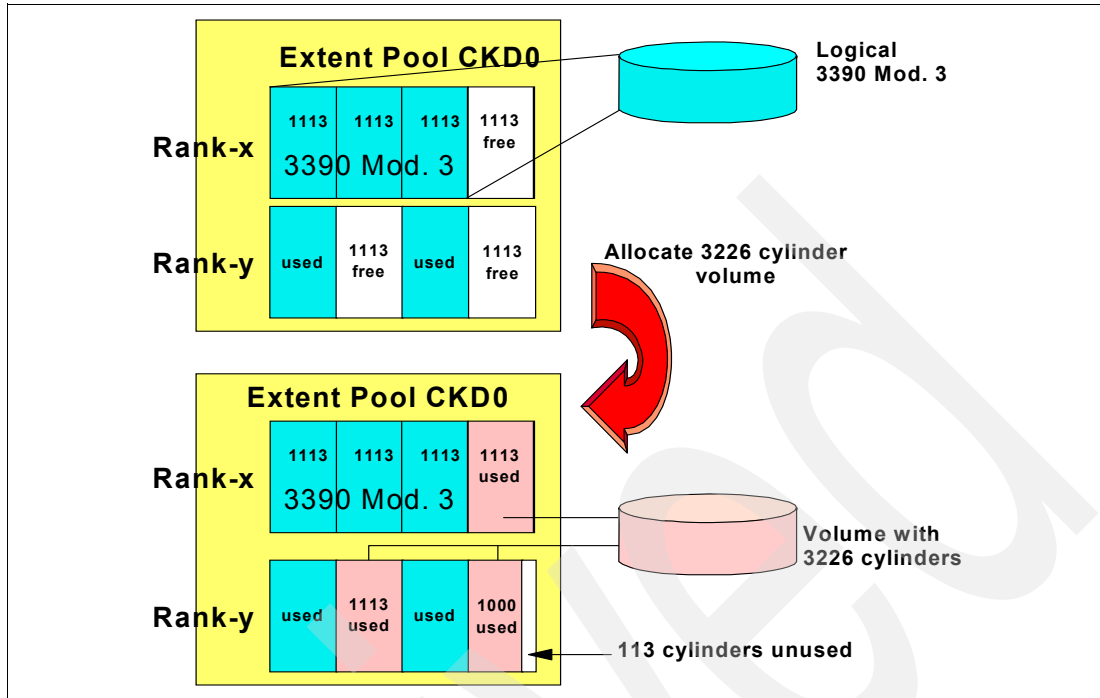
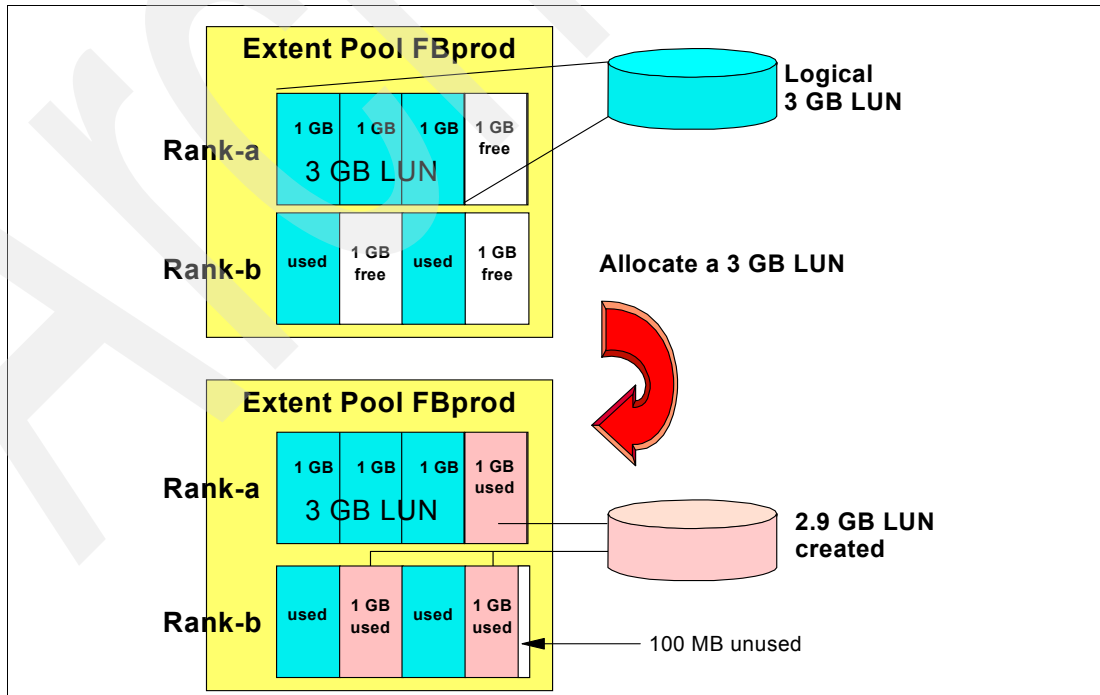

Figure 5-7 Allocation of a CKD logical volume
Figure 5-8 Creation of an FB LUN
If you want to use the maximum number of cylinders for a volume on a DS8700 (that is 262,668 cylinders), you are not wasting cylinders, as it is an exact multiple of 1113 (262,668 divided by 1113 is exactly 236). For even better future compatibility, you should use a size of 260,442 cylinders, which is an exact multiple (78) of 3339, a model 3 size. On DS8000s running older Licensed Machine Codes, the maximum number of cylinders was 65,520 and it is *not* a multiple of 1113. You could go with 65,520 cylinders and waste 147 cylinders for each volume (the difference to the next multiple of 1113) or you might be better off with a volume size of 64,554 cylinders, which is a multiple of 1113 (factor of 58), or even better, with 63,441 cylinders, which is a multiple of 3339, a model 3 size. See Figure 5-7 on page 95.
A CKD volume cannot span multiple Extent Pools, but a volume can have extents from different ranks in the same Extent Pool or you can stripe a volume across the ranks (see “Storage Pool Striping: Extent rotation” on page 100). Figure 5-7 shows how a logical volume is allocated with a CKD volume as an example. The allocation process for FB volumes is similar and is shown in Figure 5-8.